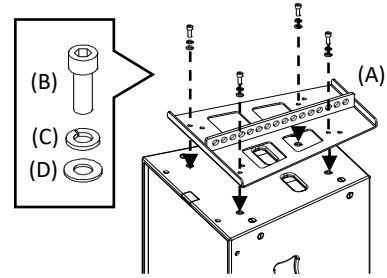

Fig.3-2-3-F
- (2) The 16 holes on the top plate can be used to install the speaker to the ceiling. (Fig.3-2-3-G)